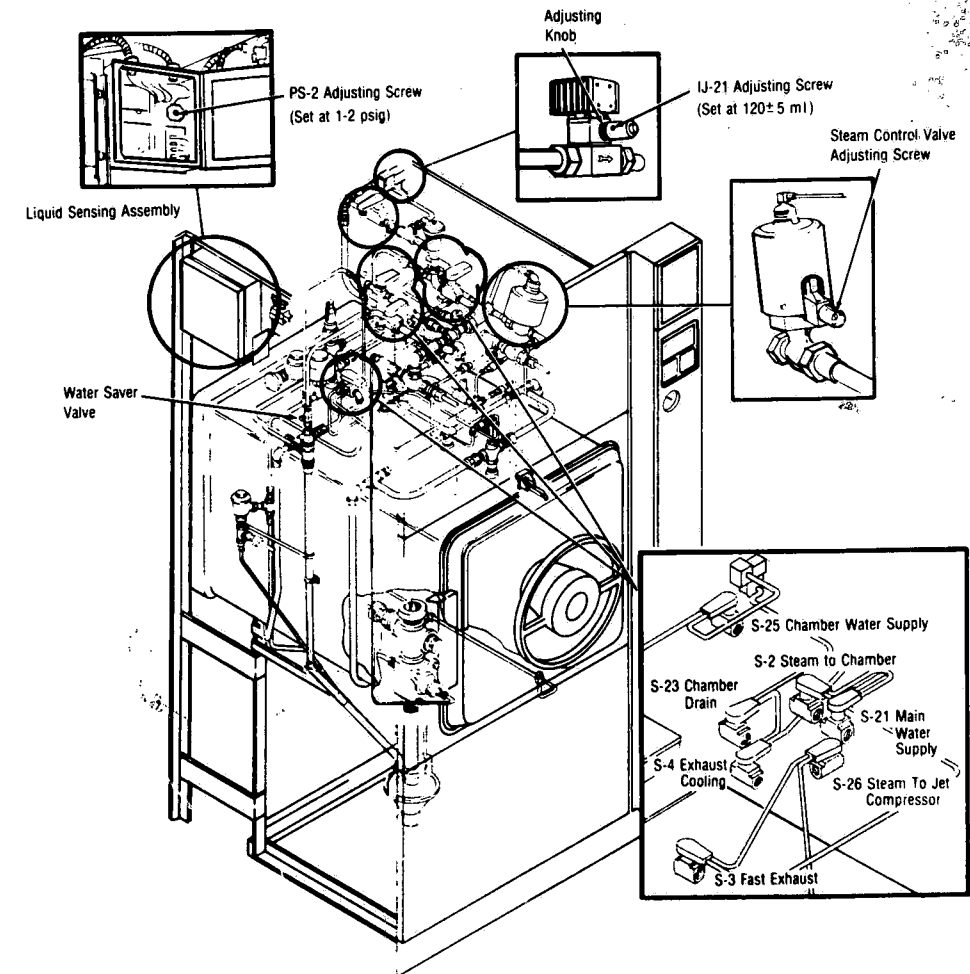

Figure 7-10. LOCATION OF STEAM CONTROL VALVE (PRESSURE REGULATOR) PRESSURE SWITCH PS-2, SOLENOID VALVES, AND DETERGENT INJECTOR IJ-21.
Steam control valve is near top of machine on right side. (Fig. 7-10) Remove right side panel to gain access to this valve for adjustment. Pressure switch PS-2 (Fig. 7-10) is located in the liquid sensing and door switch assembly box, near the upper left corner on the left side of machine. Remove left side panel, and open the hinged door on the box. The switch is about two-thirds of the way up from the bottom of the box, on the extreme right end.
10. Chamber pressure and temperature begin to rise. Adjust steam pressure regulator (See Fig. 7-10) to bring chamber temperature to 270°. Adjust TS-1 (P-2 in recorder) to start exposure timer. CONDITION light goes out and STERILIZE light comes on.
15. As chamber exhausts, adjust PS-2 (See Fig. 7-10) to turn on buzzer, cycle counter, and CYCLE COMPLETE light at 1-2 psig.